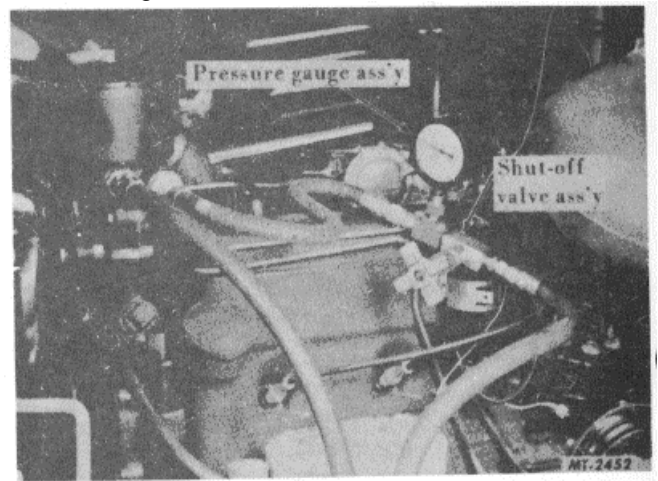

Fig. 19 Pressure Gauge Installed in System
1. Insert the pressure gauge and shutoff valve between the pump and control valve, as shown in Fig. 19.